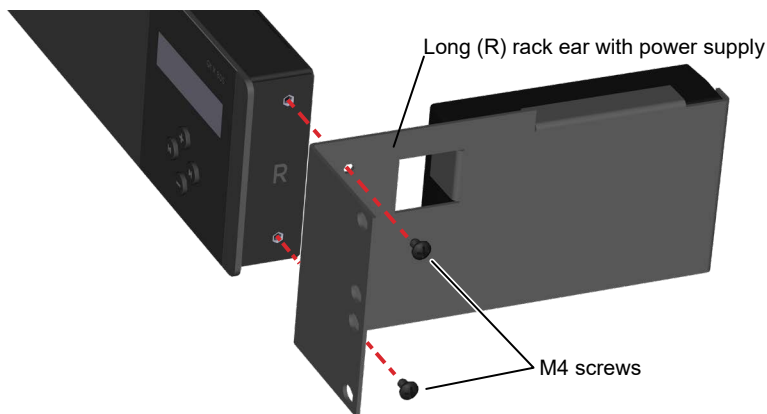

Figure 30. Attach rack ears to the controller
4. Attach the rack ears to the Qt X device with the M4 screws removed in the first step. Mount the longer one with the power supply to the right side on the controller. The brackets and controller are marked with R/L. Match the bracket to the appropriate side of the controller (Figure 30).